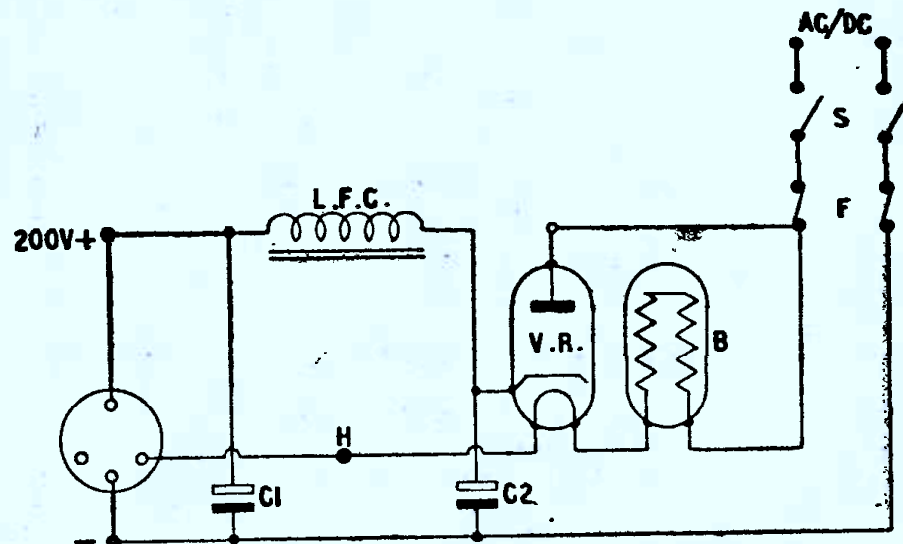

FIG 2.—A.C./D.C. Power Pack.
As is well known, for A.C./D.C. operation the heaters of all valves used in the apparatus must be connected in series, and must have the same current rating, this rating also applying to the rectifier valve heater and to the barretter, or voltage dropping bulb, B, in Fig. 2.
When the circuit of Fig. 2 is used, therefore, care must be taken to ensure that the barretter B is rated at the range of voltages it is required to drop, but no adjustments are then necessary.
A.C./D.C. valves must be arranged so that the first audio stage in a receiver—i.e., the detector—or the most sensitive valve in an amplifier has one side of its heater connected straight to the negative line, in order that there shall be no heater—cathode leakage with consequent hum. Obviously, in Fig. 2, the valve heater chain is connected between H and the negative line.
Components List for A.C./D.C. Power Pack, Fig. 2.